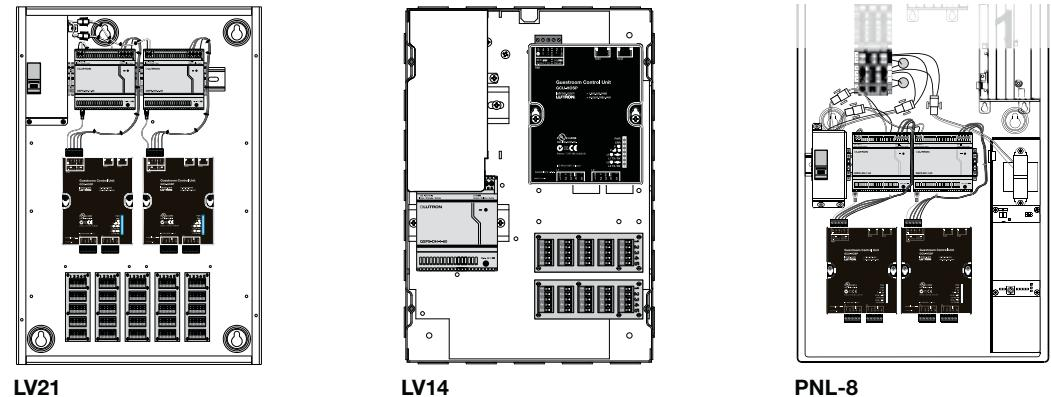

Figure 2—Power Wiring
- 2. Connect power:** The Guestroom Control Unit is powered from the QSPS-DH-1-60 power supply. Connect the harness from this supply to the PWR terminal block on the Guestroom Control Unit (see **Figure 2**). This harness has 4 conductors, 1 BLACK and 3 RED. The BLACK wire connects to pin 1 (COM) and one of the RED wires connects to pin 2 (P) to power the Guestroom Control Unit. The other two wires may be connected to pins 3 and 4 (L1 and L2) depending on whether the configurable links, L1 and L2, require power. Cap off unused wires.
- 3. Connect the Guestroom Control Unit's ground wire:** Connect the pre-stripped end of the ground wire (included) to terminal 5 (GND) of the PWR terminal block. Connect the spade lug end of the wire to the panel using the included serrated screw as demonstrated in the LV21 in **Figure 2**.